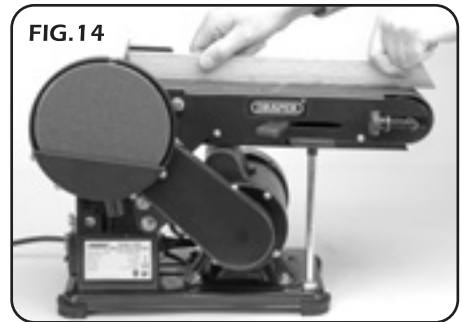

FIG.14
9.2 STRAIGHT SANDING ON SANDING BELT - FIG. 14